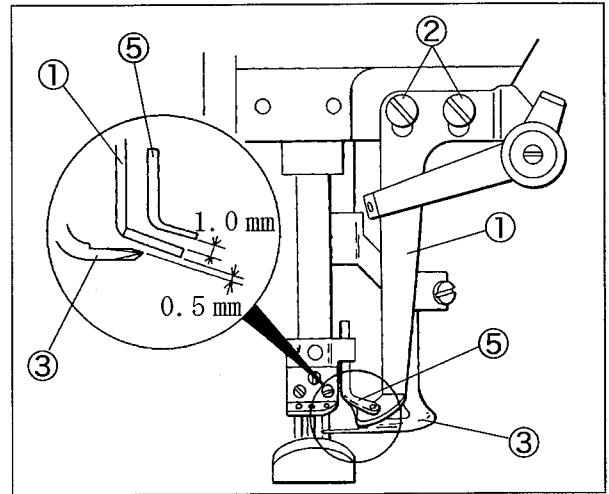

Fig. 6-12
- (1) Loosen the screws ② of the top cover thread guide ①. (Fig. 6-12)
- (2) Make the clearance between the top of the spreader ③ and the bottom of the top cover thread guide ① to 0.5 mm. (Fig. 6-12)
- (3) Set the hook ④ in the center of the slot of the top cover thread guide ① when the spreader ③ is at the extreme right. Then, tighten the screws ② securely. (Fig. 6-12 and 6-13)
- (2) Make the clearance between the top of the top cover thread guide ① and the top cover thread eyelet ⑤ to 1.0 mm when the needle bar is at the lowest point. (Fig. 6-12)